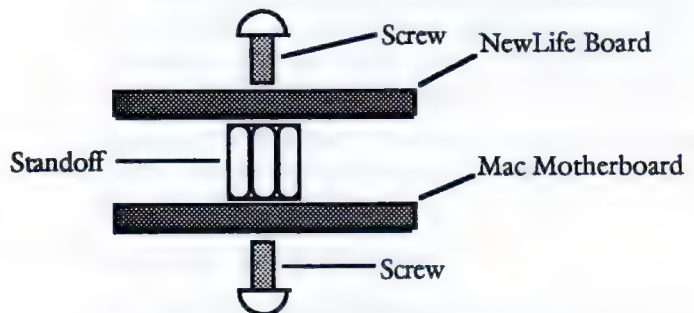

Figure 18 : Standoff installation - edge view
4. Attach the standoffs to the motherboard. As illustrated in figure 18